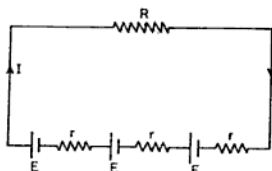

Fig. 9.5 Cells in series
**Series Combination** When it is required to have a higher voltage than that given by one cell, many cells are connected in series. In that case the positive terminal of one cell is connected to the negative terminal of the other, and so on as shown in Fig. 9.5.